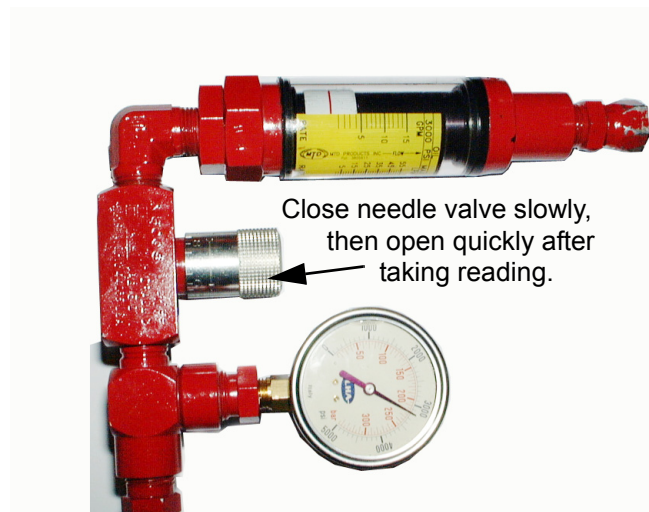

Figure 3
9. Hold the control valve handle in the forward position and begin to close the needle valve. See Figure 3.